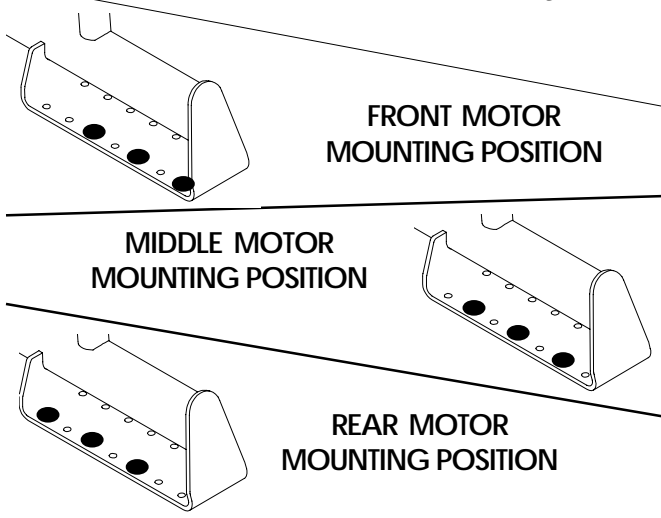

FIGURE 20 - REPOSITIONING MOTORS
REPOSITIONING MOTORS (FIGURE 20)
6. Remove the six (6) socket screws that secure the motor to the wheelchair frame.
7. Position the motor on the wheelchair frame at the position noted in STEP 5 as shown in FIGURE 20.